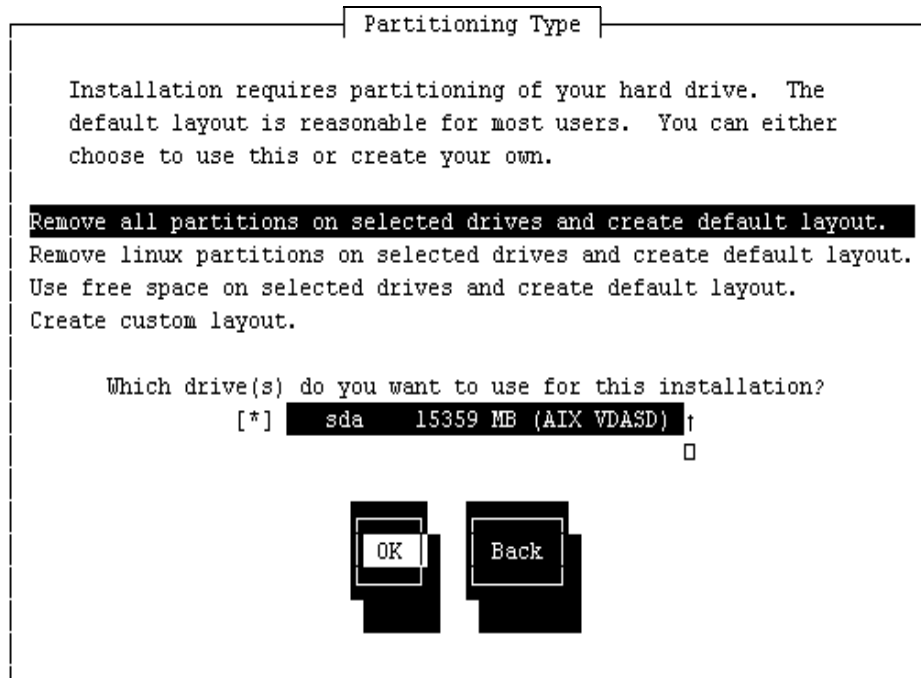

Figure 8-16 Select Partitioning Type panel
13. Select the disk partitioning type for this installation. In this scenario, we have selected the option **Remove all partitions on selected drives and create a default layout**. The drive we have selected is `/dev/sda`, which is the externally connected storage SAN disk that was partitioned using the IVM tools. See Figure 8-16 on page 349 as an example.